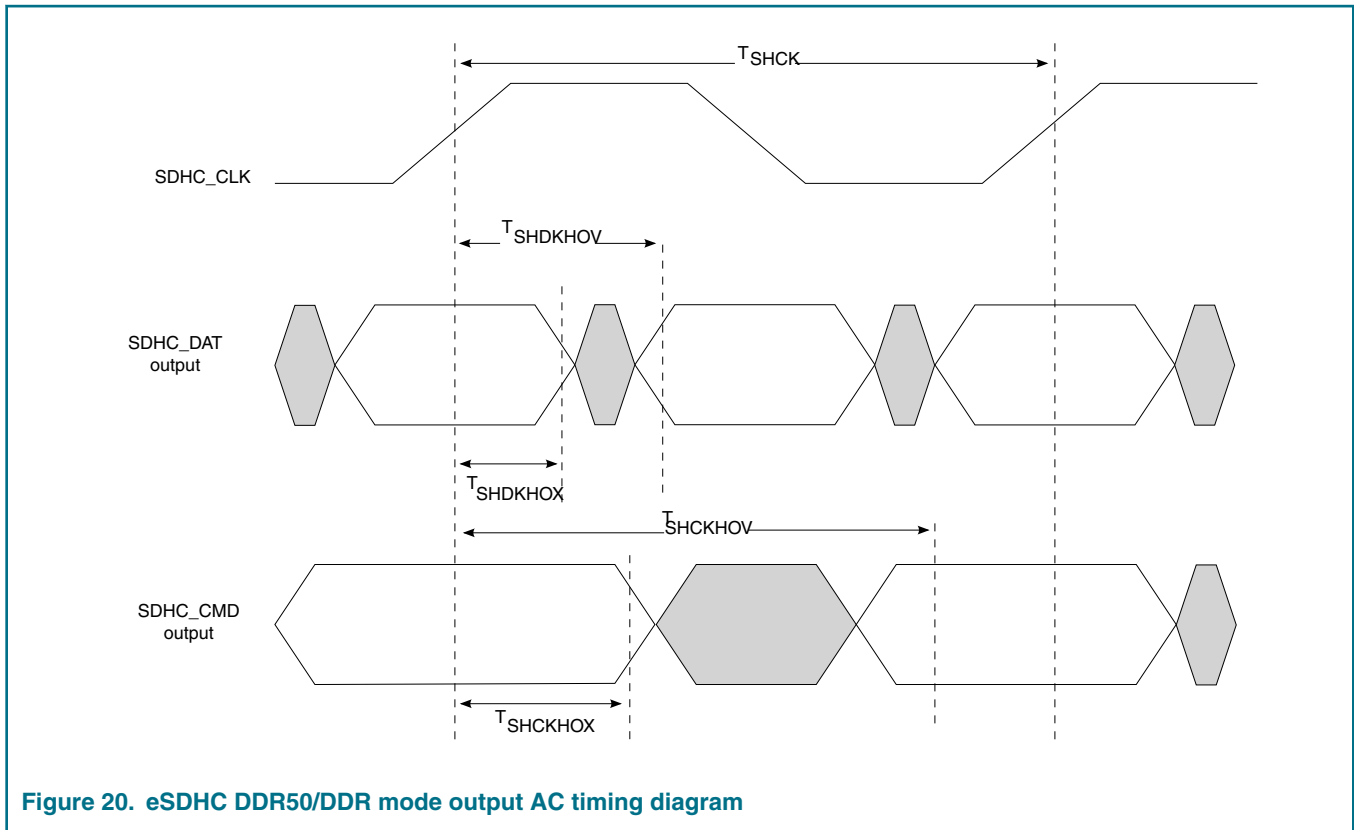

Figure 20. eSDHC DDR50/DDR mode output AC timing diagram
<p>1. $C_{CARD} \leq 10\text{pF}$, (1 card).</p> <p>2. $C_L = C_{BUS} + C_{HOST} + C_{CARD} \leq 20\text{ pF}$ for MMC, $\leq 25\text{pF}$ for Input Data of DDR50, $\leq 30\text{pF}$ for Input CMD of DDR50.</p> <p>3. The symbols used for timing specifications herein follow the pattern of $t_{(\text{first two letters of functional block})(\text{signal})(\text{state}) (\text{reference})(\text{state})}$ for inputs and $t_{(\text{first two letters of functional block})(\text{reference})(\text{state})(\text{signal})(\text{state})}$ for outputs. For example, t_{SHKHOK} symbolizes eSDHC highspeed mode device timing (SH) clock reference (K) going to the high (H) state, with respect to the output (O) reaching the invalid state (X) or output hold time. Note that in general, the clock reference symbol is based on five letters representing the clock of a particular functional. For rise and fall times, the latter convention is used with the appropriate letter: R (R for rise) or F (F for fall).</p> <p>4. See Figure 19. on page 91.</p> <p>5. See Figure 20. on page 92.</p> <p>6. The AC timing specifications are based on the recommended operating conditions with EVDD /OVDD =1.8V and EVDD=3.3V, see Recommended Operating Conditions</p>